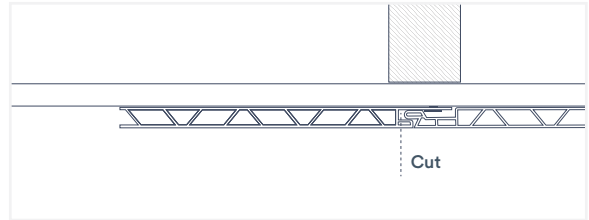

Fig. 32
4. On the groove side that remains, make another cut $\frac{3}{8}$ " away from the panel joint in the direction of the previous cut (Fig. 32) [next page]